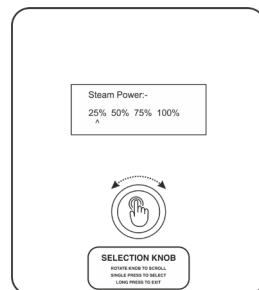

Fig. No. 23.1
- **STEAM POWER** (Ref. Fig. No. 23.1)